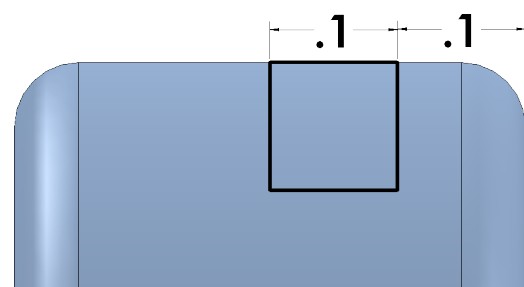

Fig. 22
Step 8. Click **Smart Dimension**  (S) on the Sketch toolbar.
Step 9. Dimension rectangle as shown in **Fig. 22**.